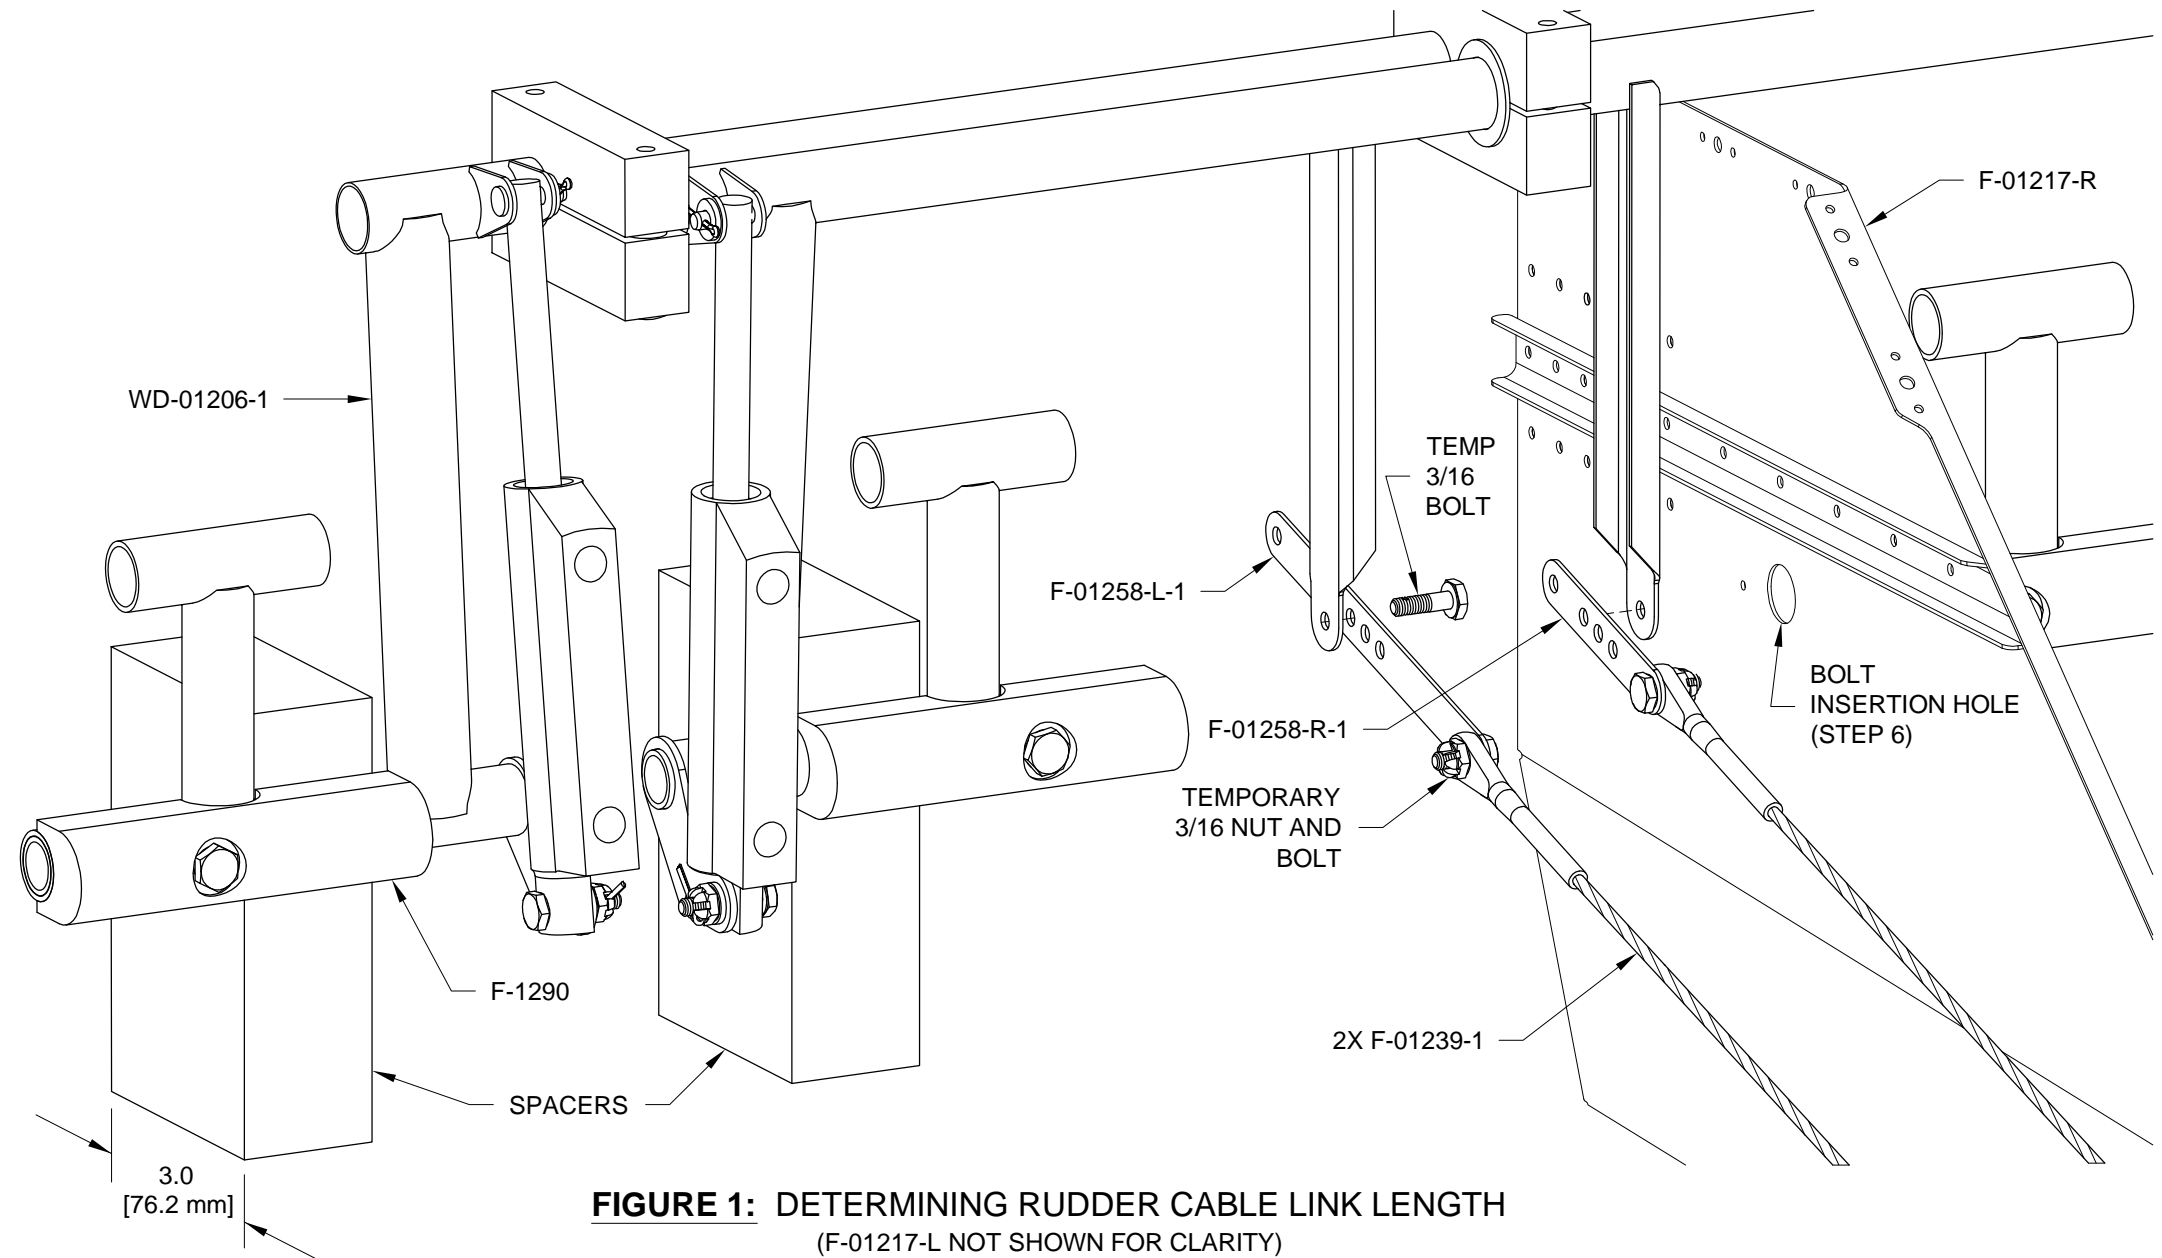

FIGURE 1: DETERMINING RUDDER CABLE LINK LENGTH
Step 6: Attach the links to the rudder cables as shown in Figure 3. Rotate the arms of the WD-01206-1 so that the hole in the arms aligns with the bolt insertion hole in the F-01217-L & -R (see Figure 1), then attach the links to the arms.